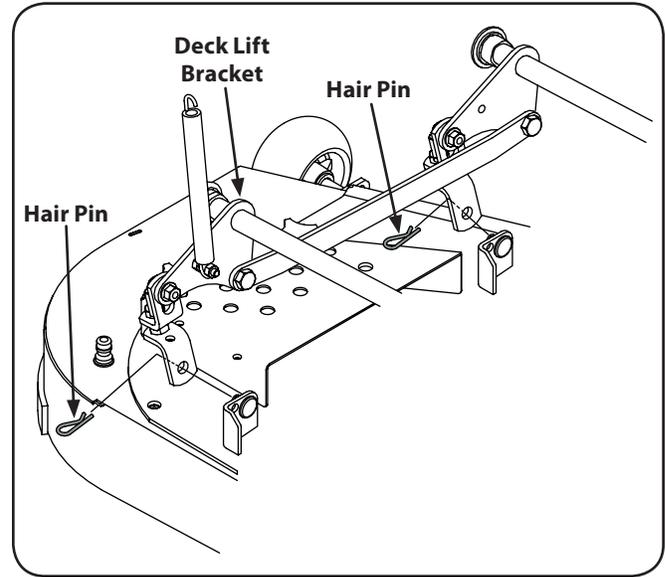

Figure 7-3
4. Remove the four hair pins from the right and left side of the deck lift bracket. See Fig. 7-3.